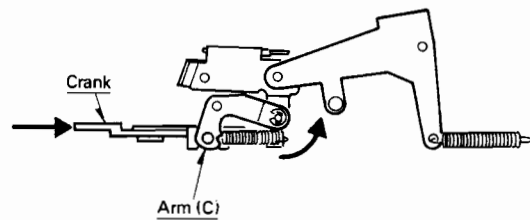

Fig. 5
When crank is pushed in the direction of the arrow, the head base is released (this will be explained later), and the arm (C) is rotated so that it faces up. Steps 1 through 3 operate in reverse, and the cassette is ejected (Fig. 5).